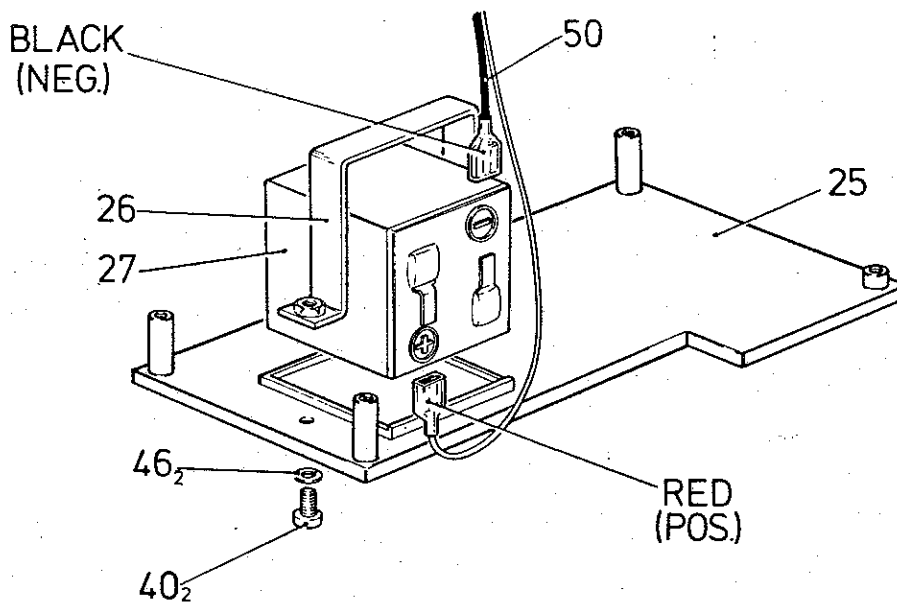

Fig. 10
Refer to Figure 10. Remove the battery strap (item 26) by removing two screws (item 40₂) and two spring washers (item 46₂). Lift the battery (item 27) from the recess in the retaining plate (item 25).
Refer to Figure 10. Place the battery in the recess in the retaining plate (item 25). Locate the positive and negative battery terminals as shown.
Connect cable harness 3 (item 50) to the battery (item 27) ensuring that the **RED LEAD GOES TO POSITIVE TERMINAL AND THE BLACK LEAD TO NEGATIVE TERMINAL**. Refer to Section 9, Figure 10, page 17.